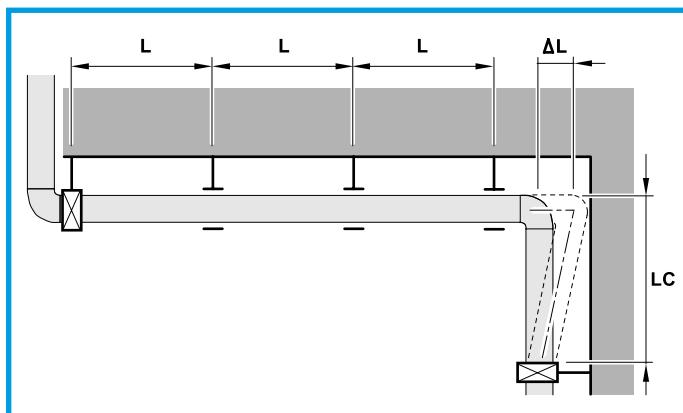

Figure 7 – Free installation
- When sliding collars are used, a flexible arm expansion joint can also be used (Figure 7).